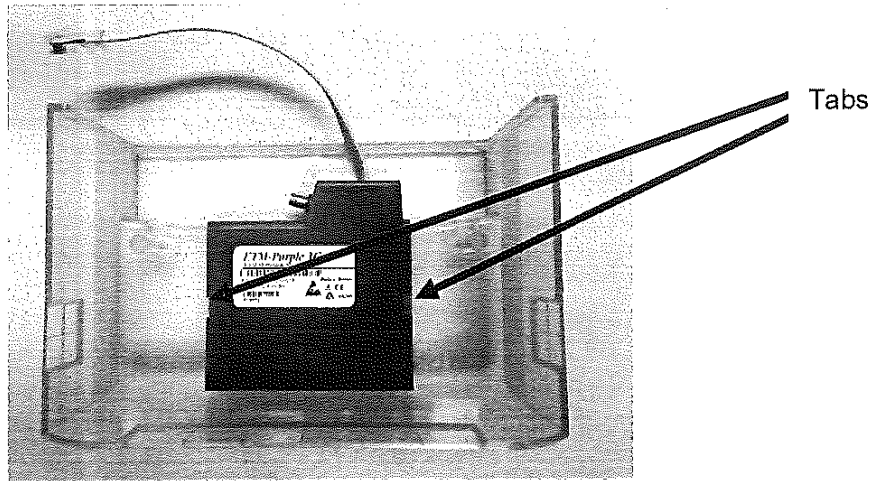

Figure 1. Detaching modem from terminal cover
3. Detach the modem from the terminal cover by pressing on the tabs on the side of the modem holder preferably with a small screw driver to access the SIM card holder. Please refer to figure 1.
5. Detach the modem from the terminal cover by pressing on the tabs on the side of the modem holder preferably with a small screw driver to access the SIM card holder. Please refer to figure 1.